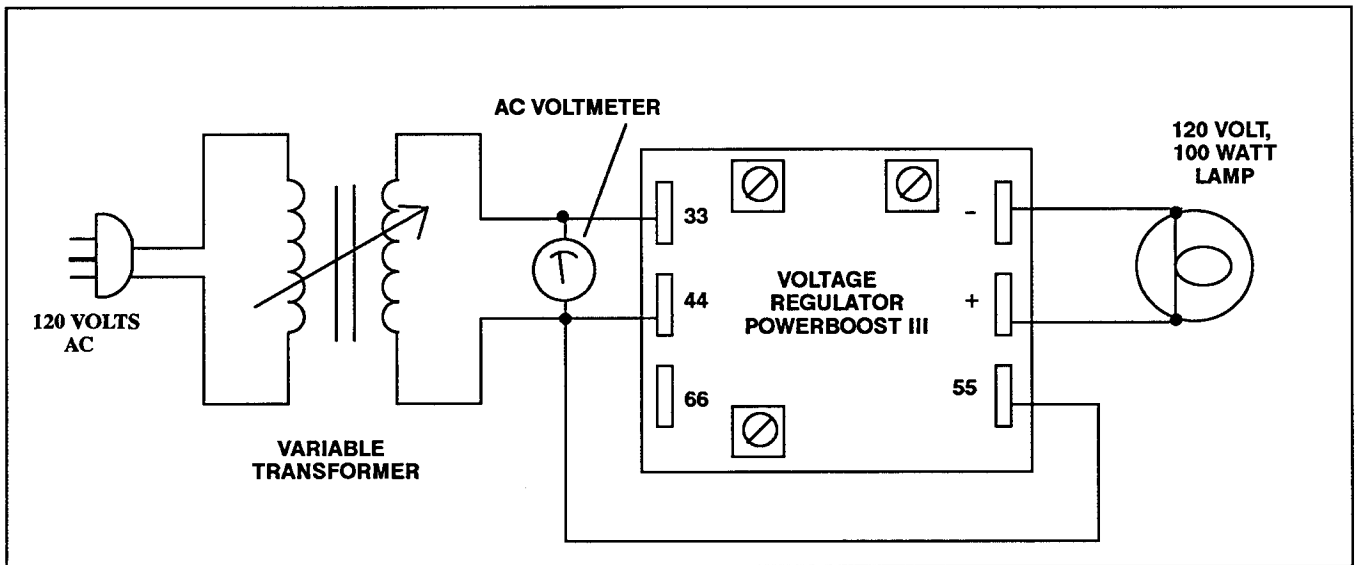

Figure 8-2a. PowerBoost III Voltage Regulator Test
1. Connect components as shown in Figure 8-2a or 8-2b.